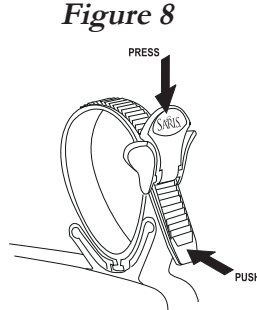

Figure 8
- To release hold-down straps, follow *Fig. 8*.